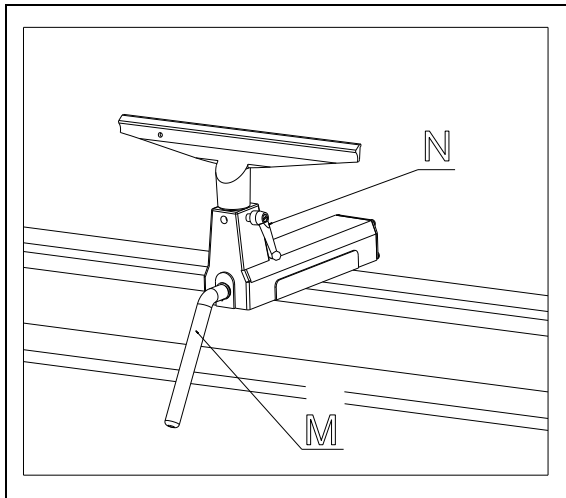

Fig. 7
9. Tool Rest Body Lock Handle: (M, Fig. 7) Locks the tool rest body in position. Unlock handle to position the tool rest in any location along lathe bed. Tighten handle when properly positioned.
10. Tool Rest Lock Handle: (N, Fig. 7) Locks the tool rest in position. Unlock the handle to position tool rest at a specific angle, or height. Tighten handle when properly positioned.